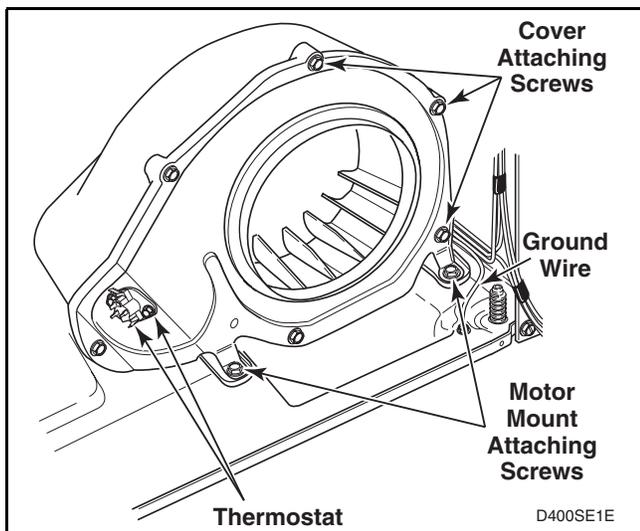
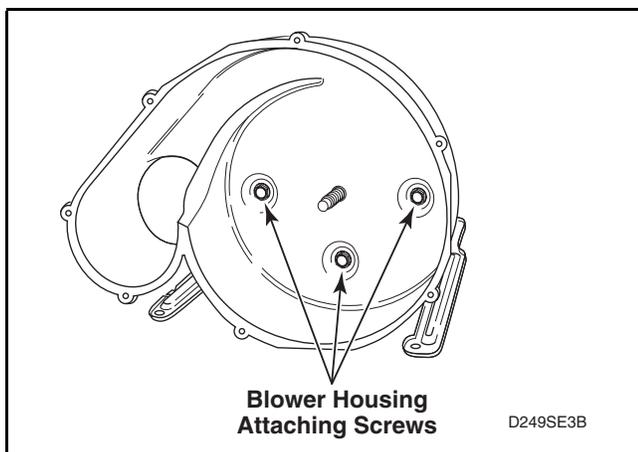

Figure 25
Figure 28
- f. Remove screw holding ground wire to dryer base. Refer to *Figure 25*.
- i. Remove two screws holding motor mounting bracket to dryer base. Refer to *Figure 25*.
- (1) Remove screws holding cover to housing. Refer to *Figure 25*.
- (2) Hold motor pulley securely and unthread blower fan from motor shaft (right hand thread). Use a 7/8 inch, 6 point socket to aid in the removal of the blower fan.
- (3) Remove three screws holding the blower housing to the motor mounting bracket. Refer to *Figure 28*.